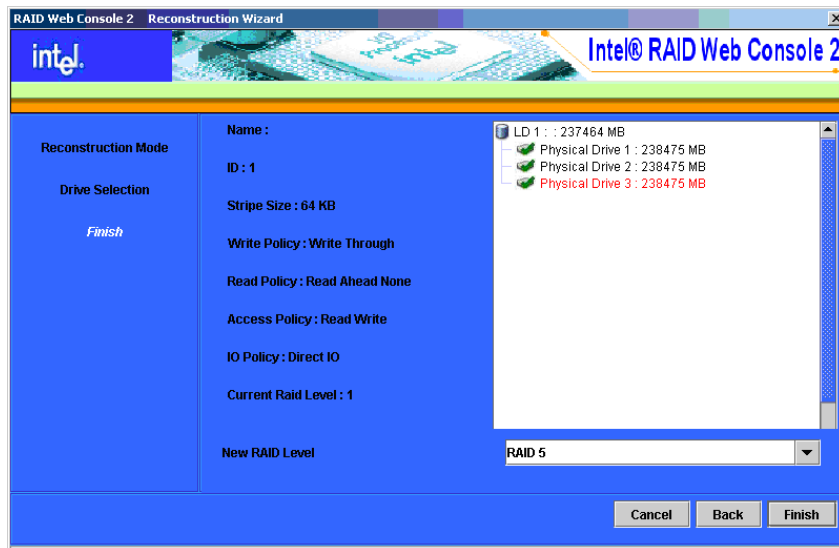

Figure 60. Changing RAID Level
5. When you are finished adding disk drives, click **Next**. The screen on which you can change the RAID level is displayed, as shown in Figure 60.